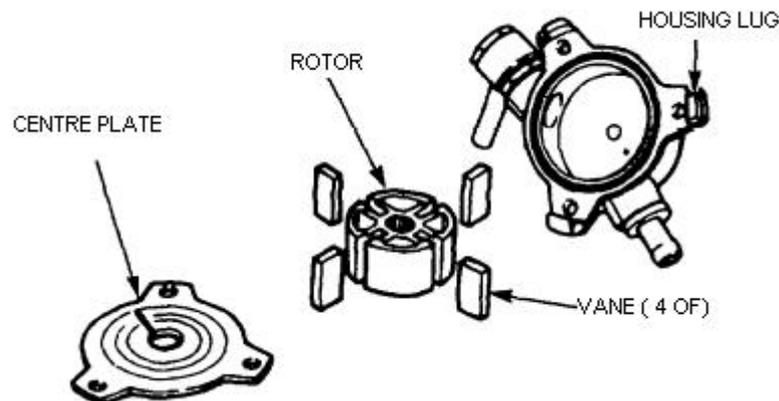

Figure 286 Vacuum Pump Disassembly
- (2) Hold the pump housing and turn the vacuum pump centre plate to release it from the three lugs and remove the plate, rotor and vanes (Figure 286).